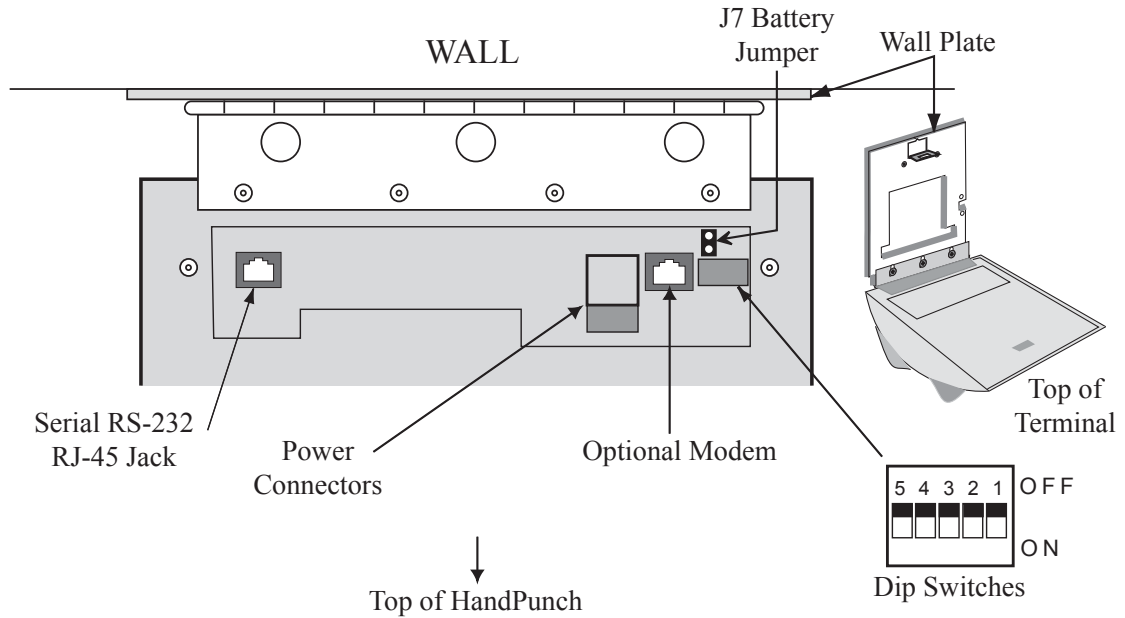

Figure 4-1: Wiring Connections and Dip Switches
Shunt J7, which is located immediately in front of the DIP switches on the main logic board (see Figure 4-1 on page 19), enables or disables battery operation on those HandPunches equipped with optional battery backup. If a HandPunch does not have the optional battery backup package installed, J7 is not used. On HandPunches equipped with the battery backup option, J7 allows service personnel a mechanism for disabling battery backup operation before removal of main input power.
Once the HandPunch is attached to the wall plate the wiring connections to the HandPunch can be made (see Figure 4-1).
**NOTE** *If the HandPunch is equipped with the battery backup option, remove shunt J7 in front of the DIP switch array (see Figure 4-1 on page 19) before proceeding. Replace shunt J7 after completion of the following steps.*